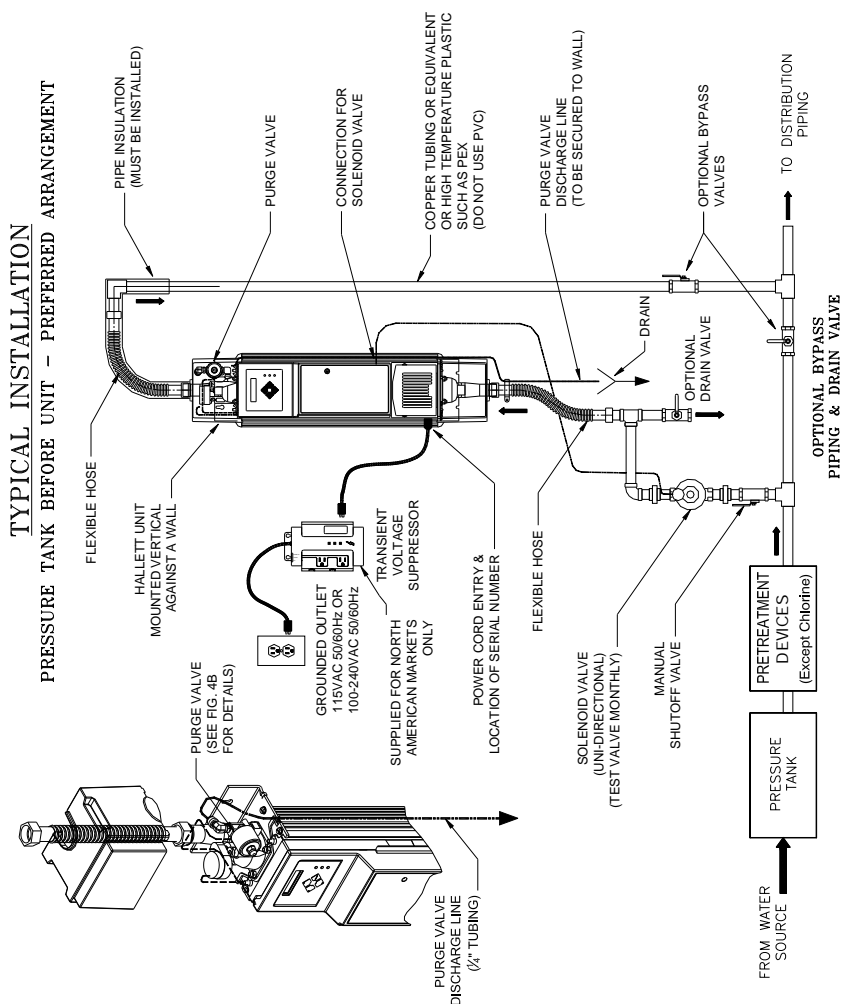

Figure 1B
There are two standard operating voltages for the Hallett 15xs unit. The unit may be 115Vac or 100-240 Vac and draws 175W. Please refer to the power input label located near the power cord entry of the unit. See Figure 1B. For convenience the front cover of the manual should also contain model number and operating voltage.
It also requires male NPT fittings for the hose connections and also for the solenoid valve (1"). The Hallett unit requires a drain for purge valve discharge line. These fittings, pipe insulation, and any piping compatible with the plumbing should be on hand before you begin installation. See Figure 1B and make a list of all necessary components including solder, paste and thread sealant. Bypass piping and valves that isolate the unit are optional, (but recommended) as is a drain valve for draining the unit.
Step 2: If you have decided to install an optional bypass line and drain, you may begin to install these fittings at this point. See Figure 1B or 1C for more information on how to connect optional bypass piping and drain.
Step 2: Plug the female end of the power cord into the power entry module located on the left side of the front panel. The power cord must be removed before front panel can be opened. See Figure 1B or 1C. Plug the male end of the power cord into the Transient Voltage Surge Suppressor. Plug the Transient